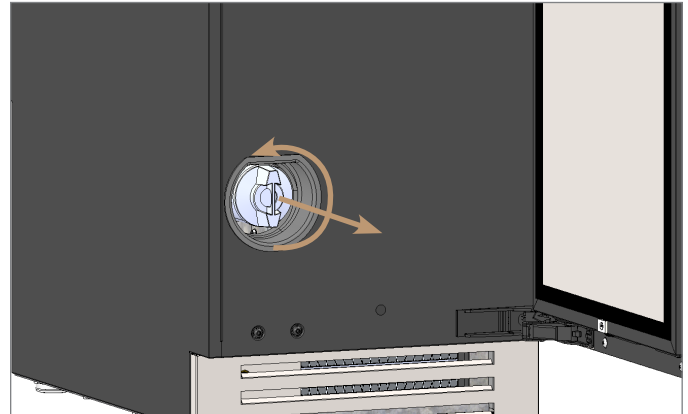

FIG. 1. Rotate the existing water filter counterclockwise.
2. Rotate the water filter counterclockwise and pull the filter from the unit. See fig. 1.